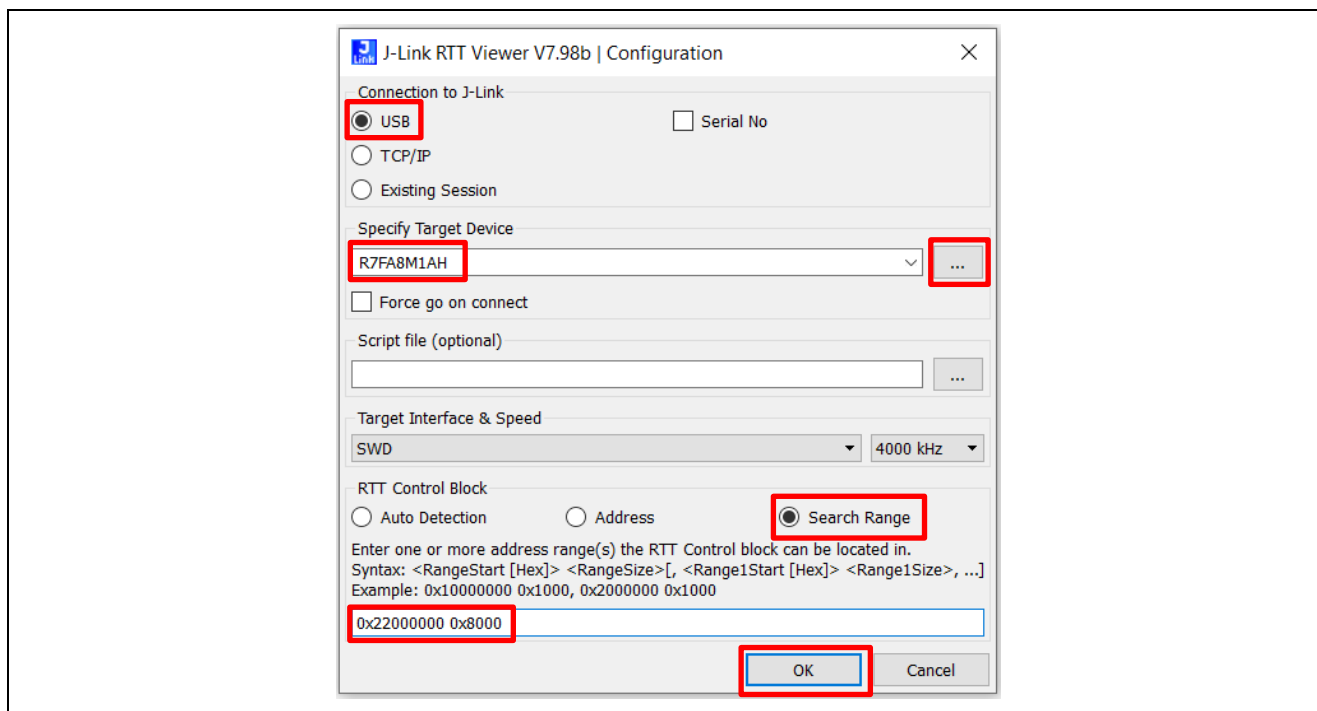

Figure 35. Configure the RTT Viewer for RA8M1 Project
4. Confirm the same configuration as shown in Figure 35, then click **OK**. The following output is printed, and only the blue LED blinks.
Configure the RTT Viewer as shown in Figure 35. Observe the following output on the RTT Viewer. This output shows that the Primary application is being executed and all three LEDs are blinking.
4. Confirm the same configuration as shown in Figure 35, then click **OK**. The following output is printed and only the blue LED should blink.